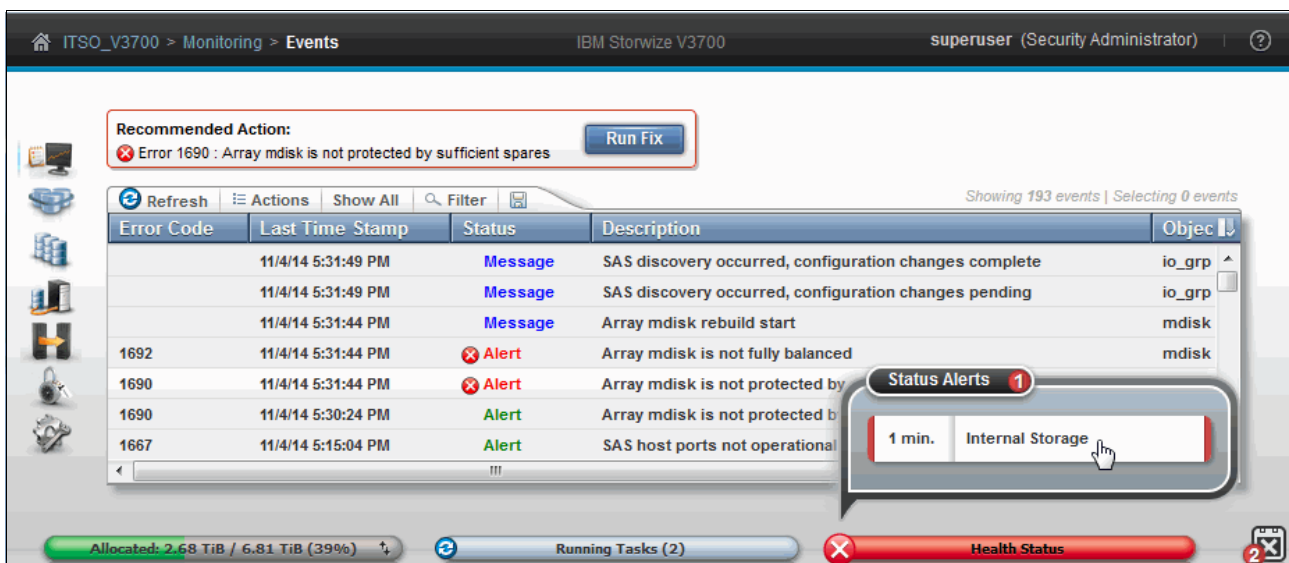

Figure 3-34 Events pane from the Health Status menu
2. To investigate the event, open the health status bar menu and click the description of the event to show the Events pane (**Monitoring** → **Events**), as shown in Figure 3-34.